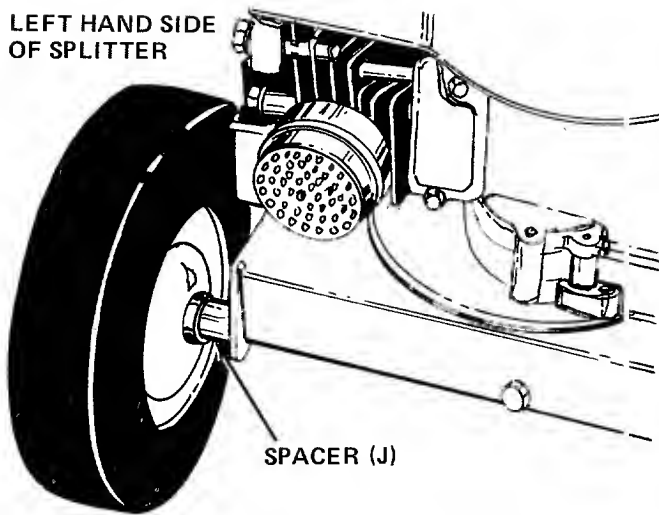

FIGURE 4
5. Slide spacer (J) onto axle shaft on the left hand side of the splitter. Spacer should be on the engine side of the splitter. See figure 4. Place the other wheel on the axle.